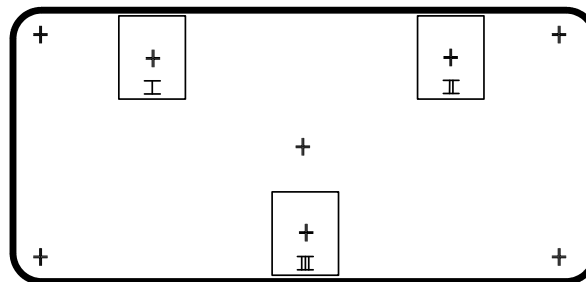

FIGURE 2-14 BORESIGHT PATTERN
1. Display the Boresight Test Pattern by pressing the TEST key on the remote keypad or use the built-in keypad and press the soft key that displays Test on the LCD display, then UP ARROW KEY to cycle to Boresight, then Enter, see Figure 2-14 Boresight Pattern.